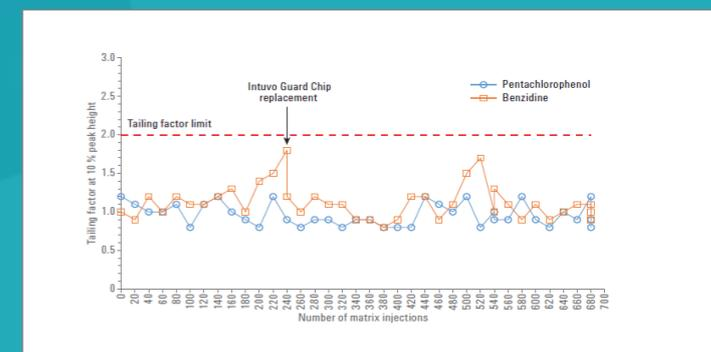

Figure 2. Tailing factor measurements after liner replacement for pentachlorophenol and benzidine.
Tailing factor (TF) was used as the determinant of acid/base activity of pentachlorophenol and benzidine. Based upon method 8270D requirements, the TF measured at 10 percent peak height for the extracted quantitation ion should be no greater than two. For pentachlorophenol and benzidine, the measured tailing factors were 1.0 and 0.8, respectively (Figure 2).